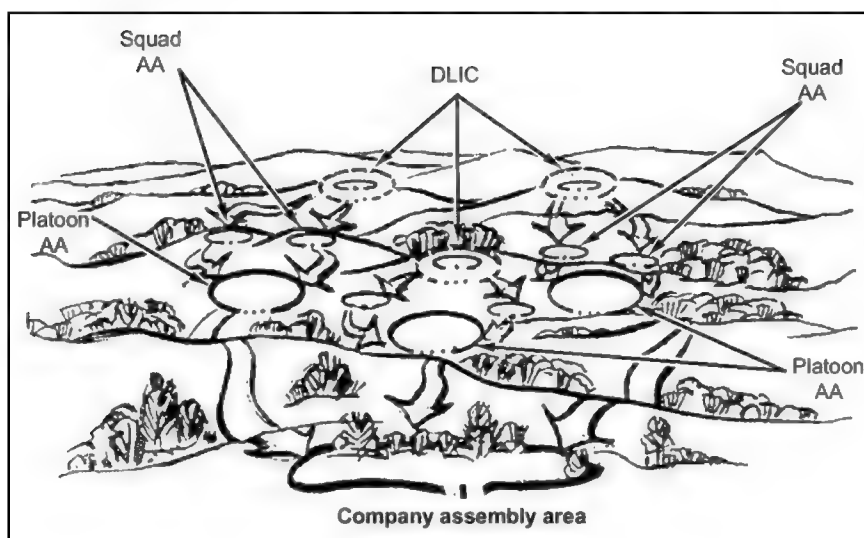

Figure 4-7. Withdrawal not under pressure.
(2) ***Withdrawal Not Under Enemy Pressure.*** The company can withdraw with speed, secrecy and deception (Figure 4-7). Withdrawal is most effective during the hours of darkness or under limited visibility conditions. Withdrawal is usually conducted in mass. When required, the company leaves a security force to cover a withdrawal by deception and maneuver. The antiarmor section can be split with a portion of the Javelin gunners assigned to the security force and the remainder with the main body.